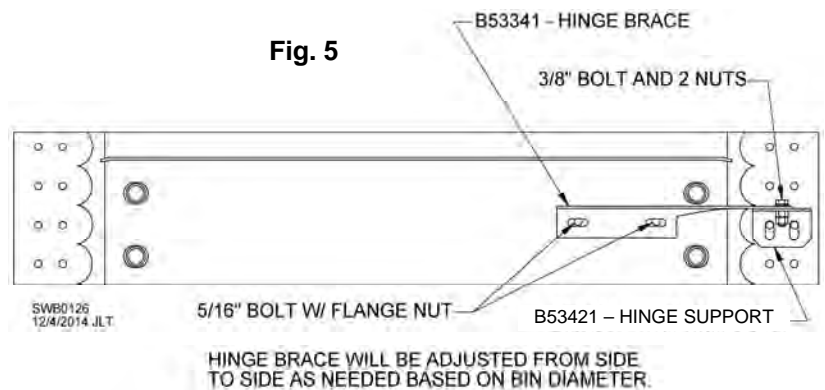

Fig. 5
9. Loosen 5/16" bolts and slide hinge braces over until hinge holes line up with holes in hinge supports. See Fig. 5. Insert a 3/8" bolt through each hole and turn nut on loosely.
11. Turn 3/8" nuts all the way onto hinge bolts, then back them off 1/2 to 3/4 turn. Place a second 3/8" nut onto each 3/8" bolt to lock them into place. See Fig. 5. Double-check door panels to ensure 3/8" bolts are not too tight and door panels can open freely and close securely over pegs.
Insert splice bracket bolts from inside of bin to create a watertight seal. If inside ladder brackets are used at exact same location, remove washer and place between outside bracket and sidewall. See Fig. 5.